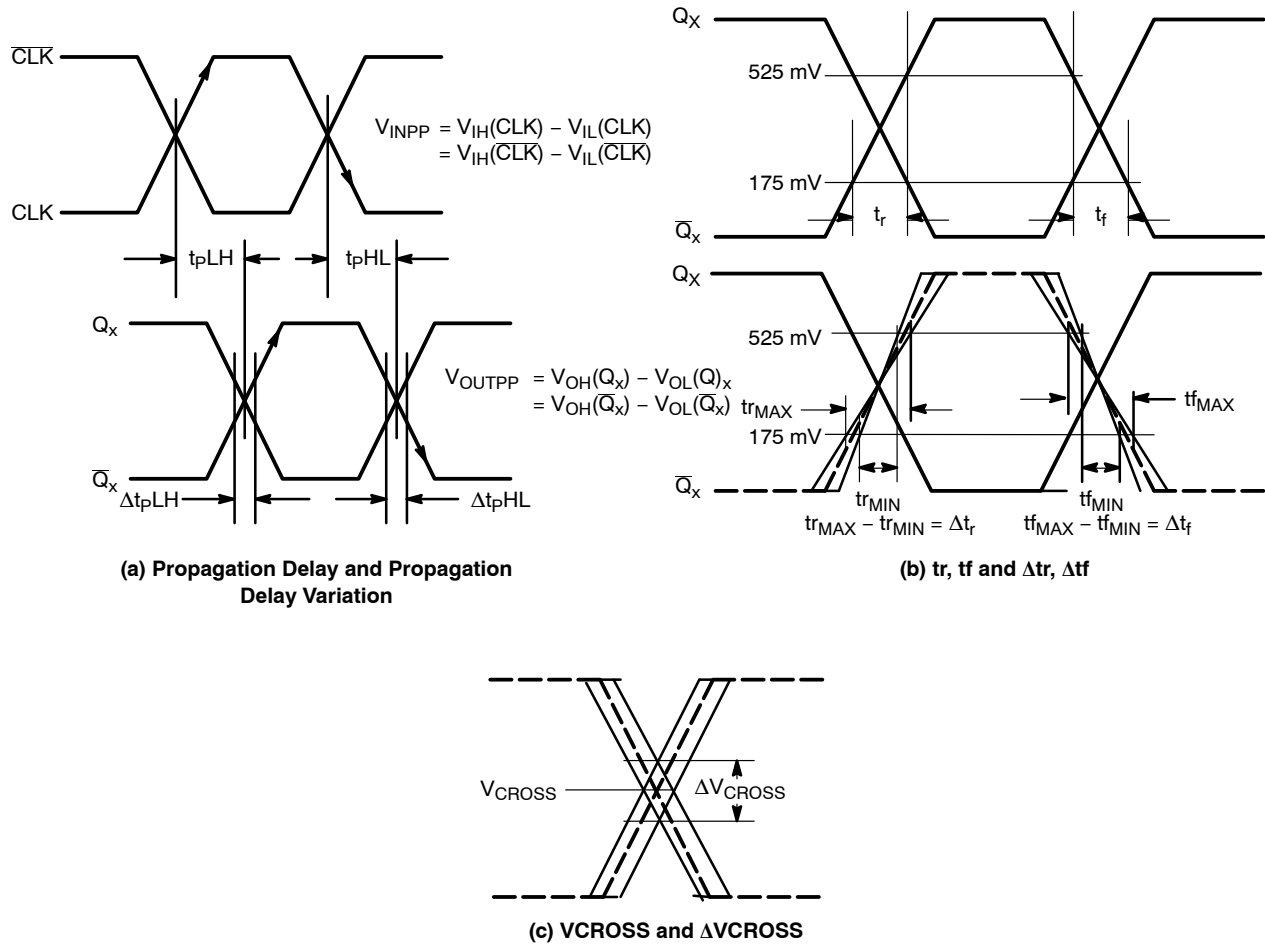

Figure 3. AC Reference Measurement
8. Measured from the input pair crosspoint to each single output pair crosspoint across temp and voltage ranges per Figure 3.